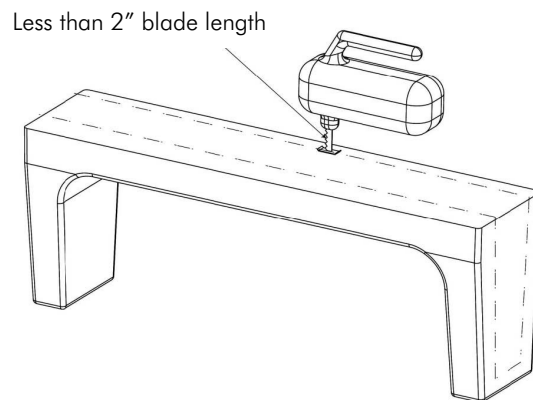

FIGURE 5
7. Cut the CleanCut Step to fit the cut-out tub opening using a jigsaw (Figure 5). Fasten Velcro-stripping on both sides of the jigsaw to prevent making any unwanted marks on the CleanCut Step. It is important that a blade **less than 2"** is used to cut out the CleanCut Step so as to prevent accidentally cutting through the top of the Step. Snap off any excess length on the stock jigsaw blade beyond 2".